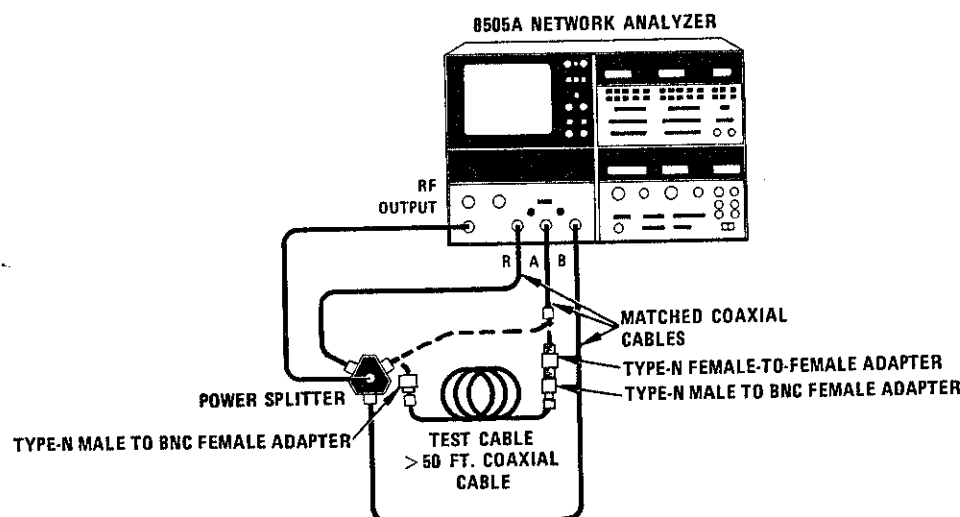

Figure A4-18. Test Setup to Measure Group Delay of Test Cable
- (1) Connect the "Test Cable" in A channel between the matched cable and the power splitter as shown in Figure A4-18.
- (2) Set 8505A controls as follows:
- b. Connect equipment as shown in Figure A4-18 with both matched cables connected to power splitter and "test cable" with adapters not connected in circuit.